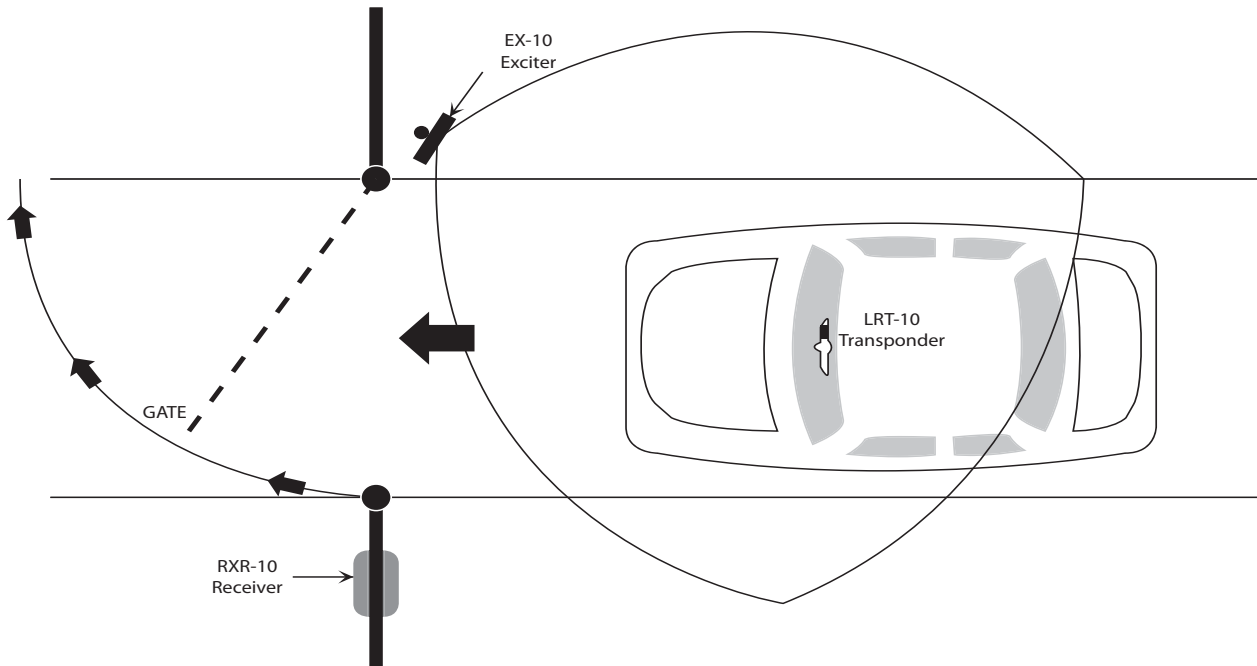
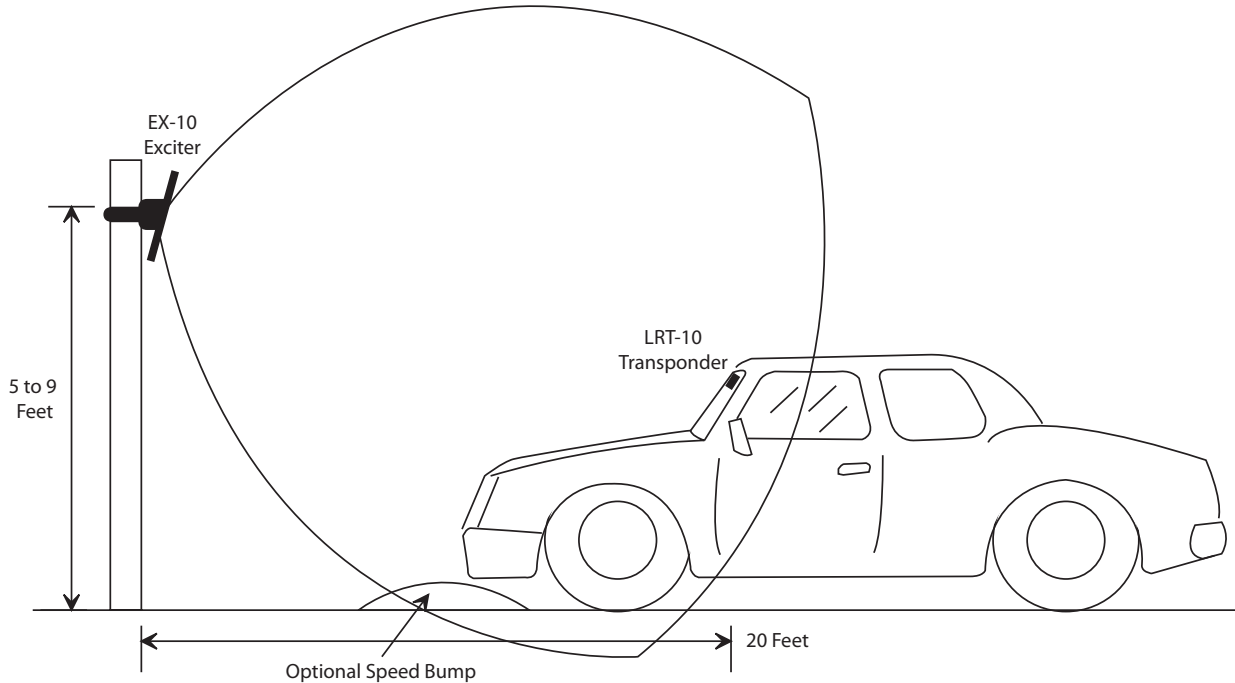
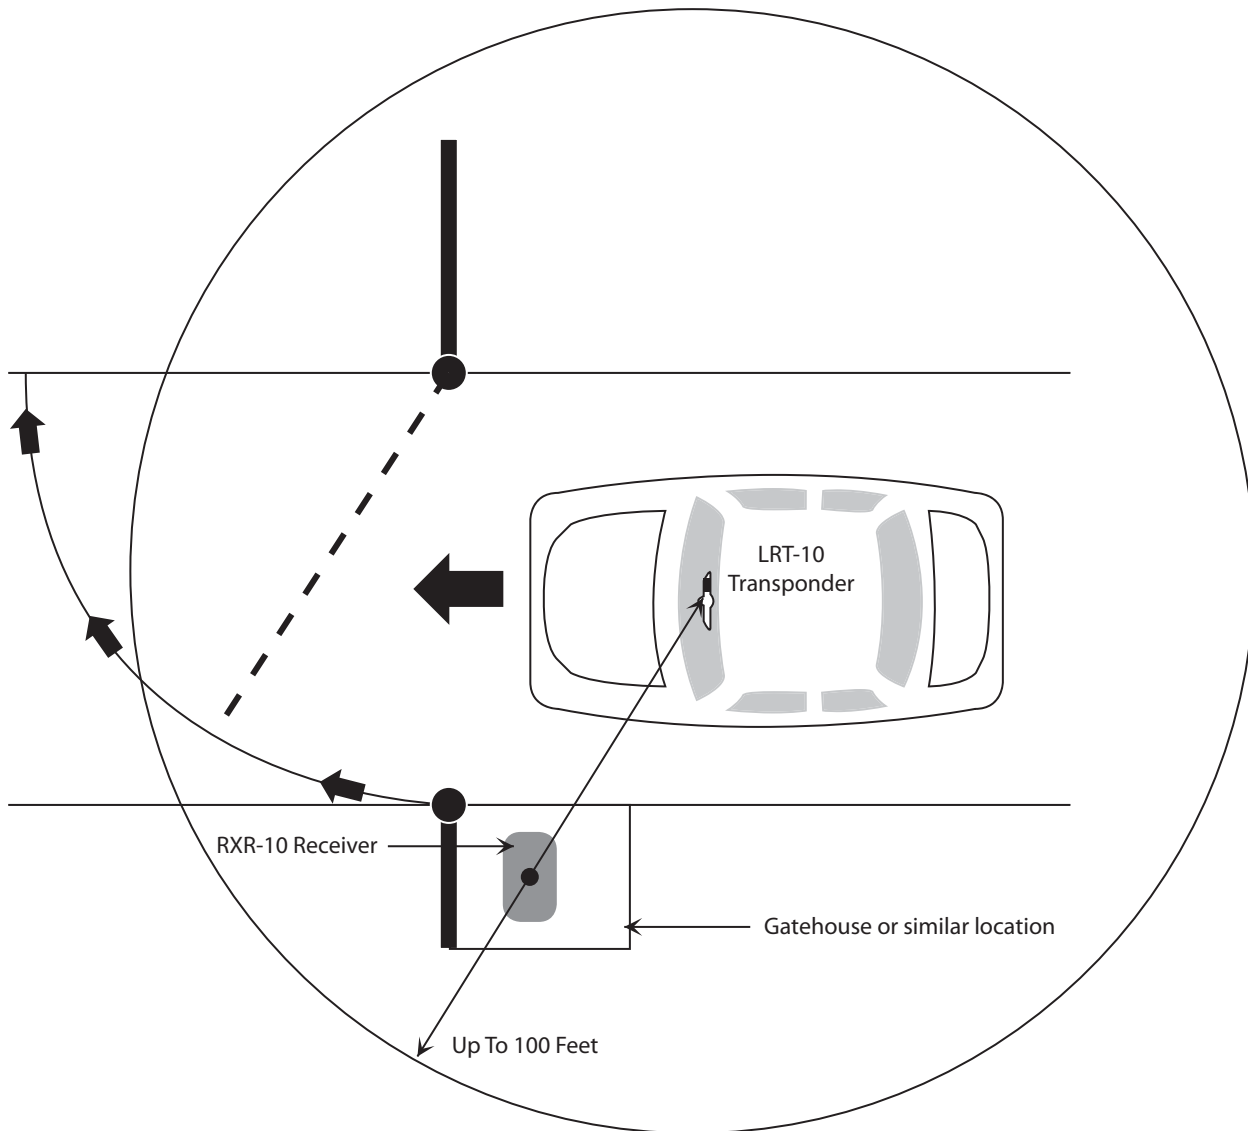

Figure 2: The Horizontal Antenna Coverage Pattern
Figure 3: The Vertical Antenna Coverage Pattern
Figure 5: RXR-10 Receiver Detection Pattern – 100 Foot Radius Circle
The horizontal orientation of the Exciter is set so that the center of the pattern is directed at the right edge of the road, which permits the left half of the detection pattern to cover most of the entry lane. Refer to Figure 2.
Vertical orientation is adjusted so as to aim the antenna at a spot about twenty feet (6.5 M) on the road from the Exciter. From this spot forward, the detection area will increase as you get closer to the gate. This is shown in Figure 3.
The Receiver range pattern is omnidirectional, a large, circular shape with a radius of up to 100 feet (30M). A typical mounting location is in a gatehouse for gated communities, or other enclosure, which makes it convenient to provide a data cable from the Receiver to the control unit. An external antenna can be installed if the Receiver is mounted in a difficult RF signal area. The LRT-10 Transponder sends its signal to the Receiver at 433 MHz so the detection pattern is very similar to that of a garage door opener or the remote unlock on your automobile. Cable type and run length are like any proximity reader and are specified below. The Receiver antenna detection pattern is shown in Figure 5.
6. If the LED functions between Transponder and Receiver are not consistent, there is a problem with signal coverage in the vehicle travel lane. Verify the Receiver is within 100 feet of the desired coverage area (see Figure 5) and the Exciter is properly oriented (see Figure 2 and Figure 3) to cover the vehicle travel lane.